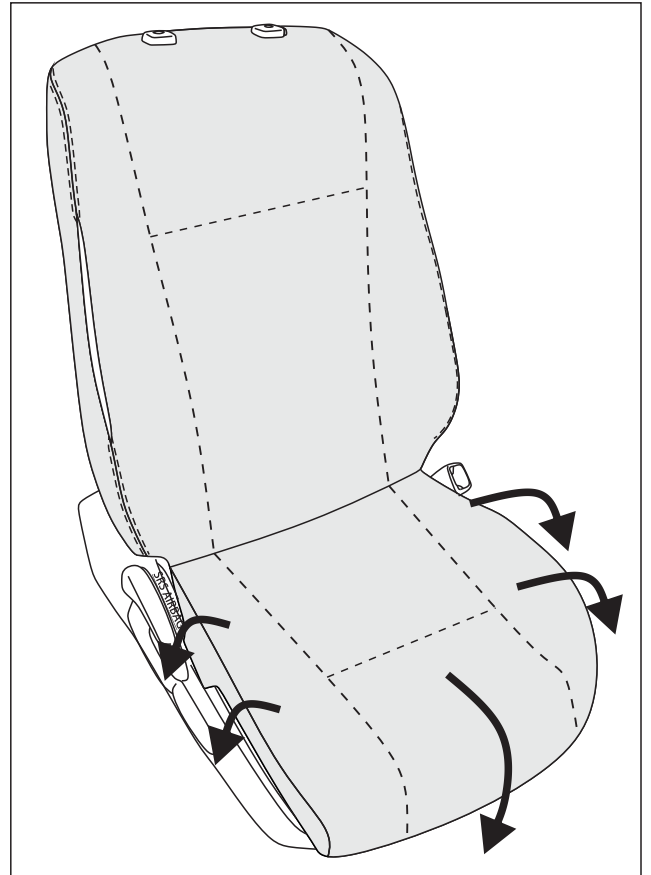

Fig.6
6. Roll base part of the cover over the seat base and align to seat contours (Fig.6)